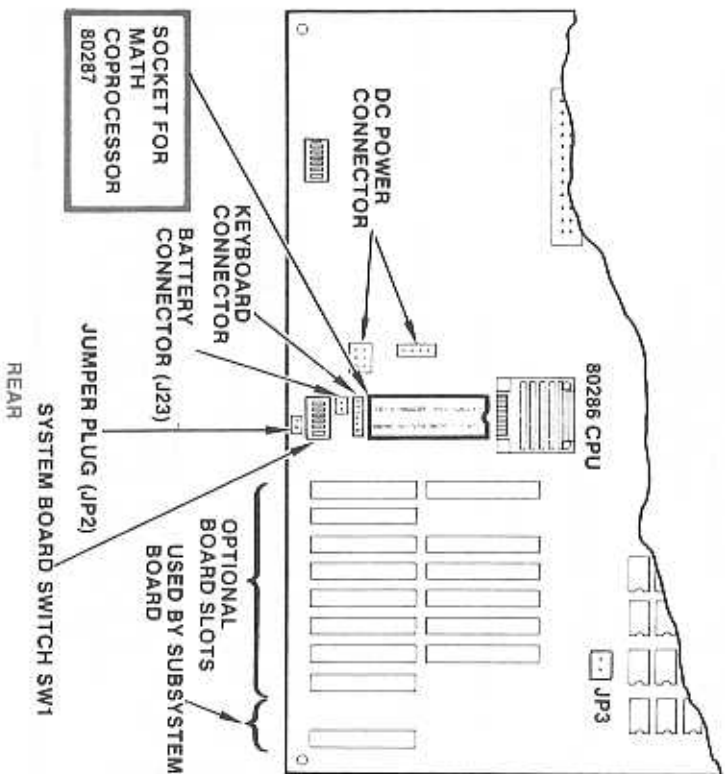

Figure 6-1. 80287 Math Coprocessor Location
Figure 6-1 shows the location for inserting the 80287 math coprocessor chip on the system board.
2. If controller boards are blocking access to the math coprocessor socket on the system board (Figure 6-1), remove the controller boards, as described in section 2.4.